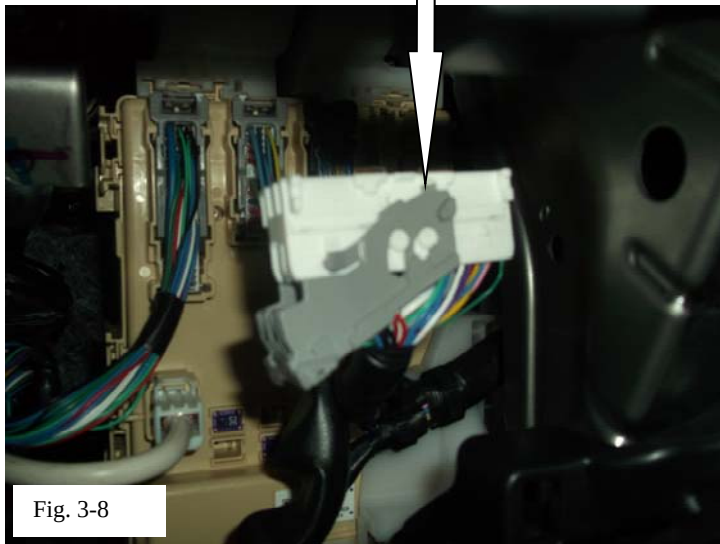

Fig. 3-8
2. Unlock yellow security lock (orange arrow) and remove connector from junction block. (Fig. 3-8)